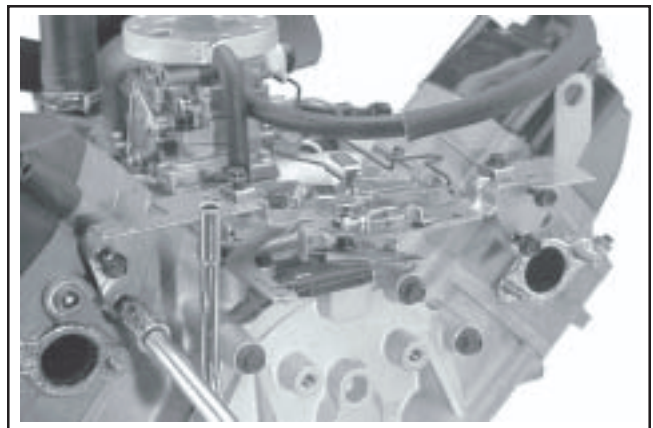

Figure 9-18. Removing the Four Screws from Main Control Bracket.
1. Remove the four hex. flange screws securing the main control bracket to the cylinder heads. See Figure 9-18.